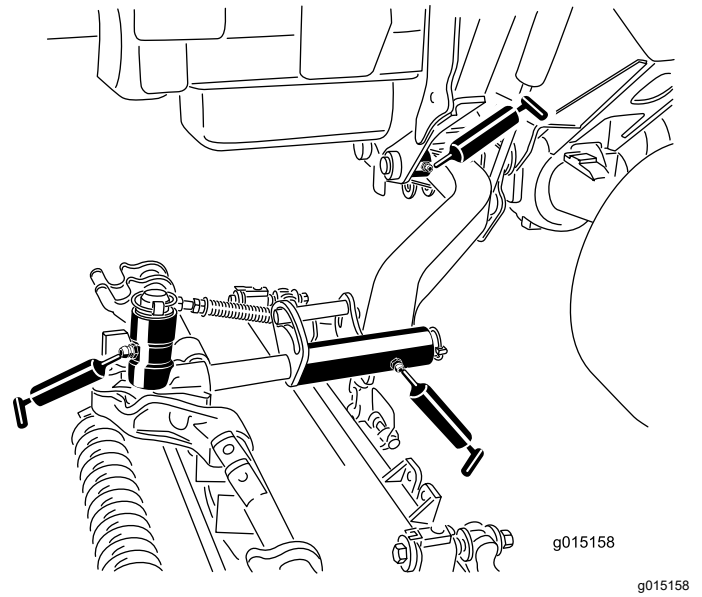

Figure 51
- Lift arm pivot bushings (1 per cutting unit) (Figure 51)
- Cutting unit carrier frame (2 per cutting unit) (Figure 51)
- Cutting unit lift arm pivot (1 per cutting unit) (Figure 51)